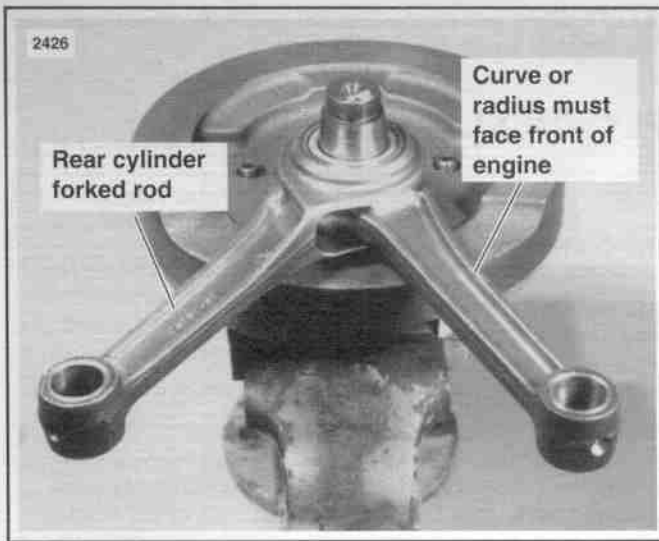

Figure 3-71. Connecting Rod Location
- See Figure 3-71. Install the rods and bearings on the crankpin using a thin film of petroleum jelly to retain the rollers. Never use a stiff, high temperature grease on the roller bearings.